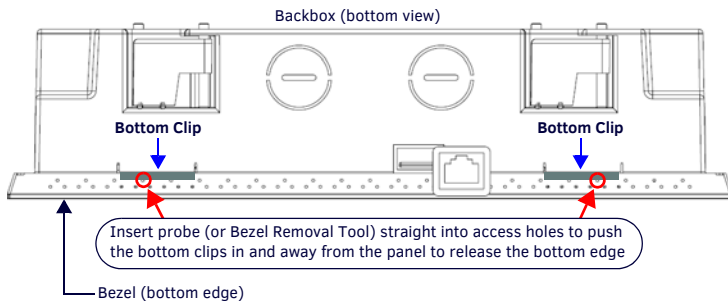

FIG. 6 ACB-2110/BACKBOX ASSEMBLY
- With a thin probe, carefully press straight into the access holes on the bottom of the bezel (near the center of the bottom tabs) to disconnect the two bottom clips (FIG. 6).